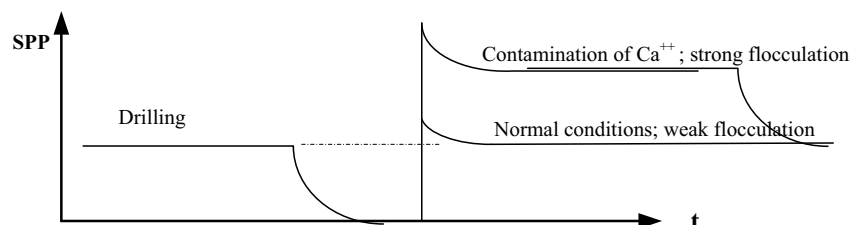

Figure 1-4c: Rheological response at the rig floor when drilling into contaminants.
- c) The edge-to-face flocculation is caused by weak electrostatic forces and is easily broken when sheared. The Ca^{++} ion binds two clay platelets in a much stronger grip, and is not easily broken as indicated in Figure 1-4c.